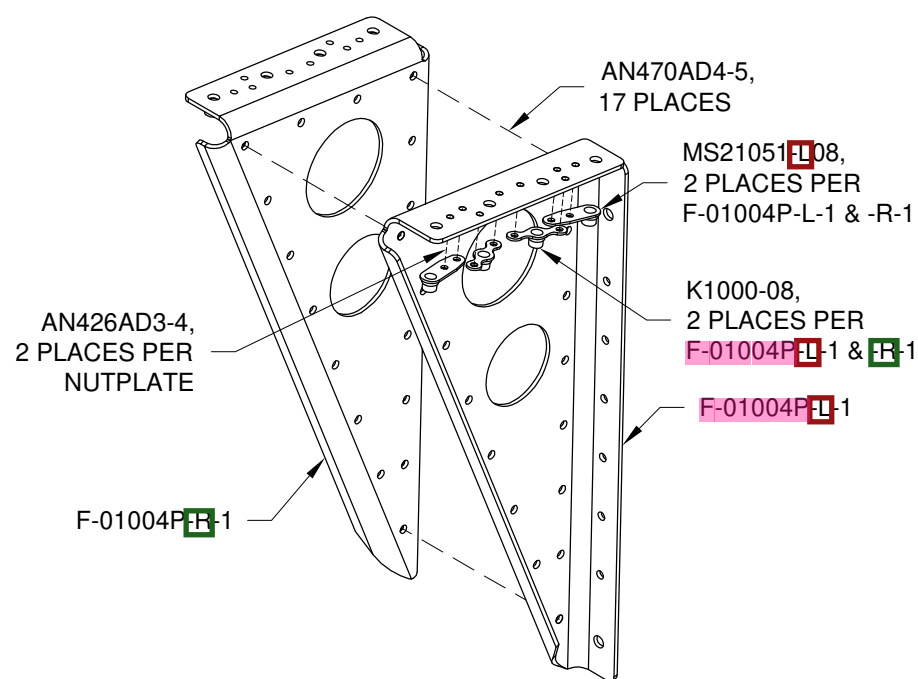

FIGURE 1: RIVETING THE MID SEAT RAIL SUPPORT SUBASSEMBLIES
Step 2: Cleco then rivet the nutplates onto the upper flanges of both Mid Seat Rail Support Subassemblies as shown in Figure 1. Repeat this step on both Mid Seat Rail Support Subassemblies.